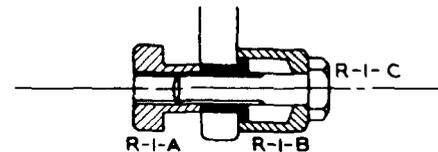

Fig. 24
- (2) Cam Shaft Bearings: Loosen the set screws of both sweep cams (see note), the operating cam and the spur gear (Std. 3270-A-63). Remove the cam shaft by sliding it out to the right. The spur gear, the left hand sweep cam, the operating cam and the right hand sweep cam will drop off as the shaft is moved out to the right. (Observing the position of these cams with respect to each other will be of help when reassembling them on the shaft later on). Remove the bearing holding screws. Remove the bearings by means of the bearing removal tool shown in Fig. 24. The three parts of this tool are marked R-1-A, R-1-B and R-1-C. Assemble them in the bearing as shown so that when nut R-1-A is tightened the bearing will be pushed into the recess of R-1-B.
(4) Bearings in Secondary Gear Support Casting: Loosen the set screws of gear (Std. 3270-A-101) and gear (Std. 3270-A-99). Slide the shaft out to the right. Remove the bearing holding screws (located underneath the bearing). Remove the bearings by means of the bearing removal tool shown in Fig. 24. The three parts of this tool are marked R-1-A, R-1-B and R-1-C. Assemble them in the bearing as shown so that when nut R-1-A is tightened the bearing will be pushed into the recess of R-1-B.
(20) Transmitter Motor Drive Shaft Bearings: Remove the assembly as a unit by removing the three mounting screws holding the casting in place. Remove the worm gear R-230-5 from shaft. Remove the shaft leaving collar on shaft in place. Remove the bearing holding screws. Remove the bearings by means of the bearing removal tool shown in Fig. 24. The three parts of this tool are marked R-1-A, R-1-B and R-1-C. Assemble them in the bearing as shown so that when nut R-1-A is tightened the bearing will be pushed into the recess of R-1-B.